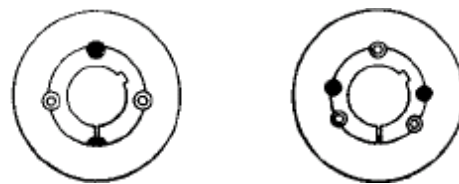

Fig. 9.1 Pulley holes
3. Fit the bush into the hole in the pulley, taking care to align the threaded half-holes on the pulley with the unthreaded half-holes on the bush (Photo 1). There may be 2 or 3 of these holes (Fig. 9.1), as can also be seen in Table 9.1, depending on pulley size.